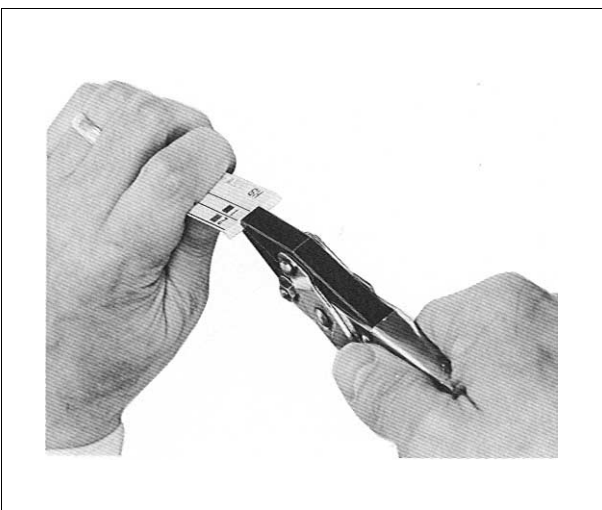

Fig. 19 Shortening the measuring point designation plate
3. Shorten the new measuring point designation plate at the predetermined breaking point (see Fig. 19) and replace into the holder.